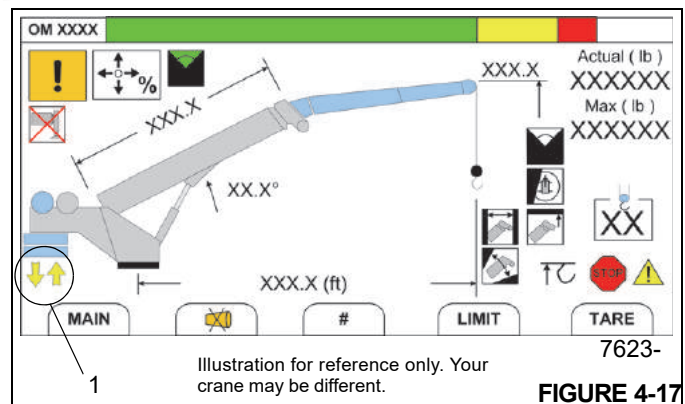

FIGURE 4-17
4. Set display in Operator's Console to the RCL Operating Mode Screen (Figure 4-17) (see *Section 7, Rated Capacity Limiter*).